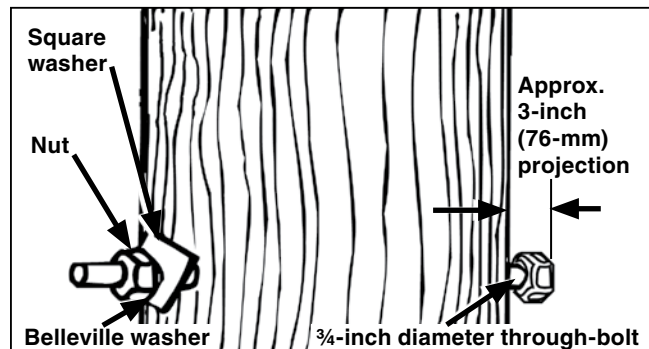

Figure 3. Install the through-bolts. Use a square washer against the wood pole and a Belleville washer between the square washer and the nut.
STEP 2. Insert a $\frac{3}{4}$ -inch (19-mm) diameter through-bolt (not furnished) into each hole as shown in Figure 3.